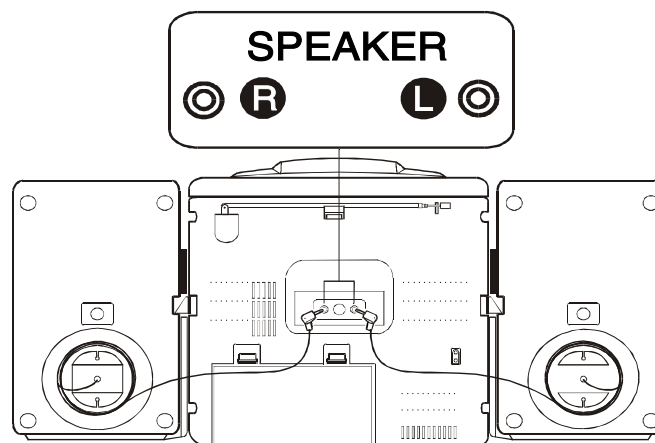

FIG. 3
6. Carefully unwind the speaker wire from behind each speaker box and plug the right plug into Speaker Jack R also plug the left plug into Speaker Jack L (as shown in FIG. 3). Wrap the remaining wire behind each speaker box.